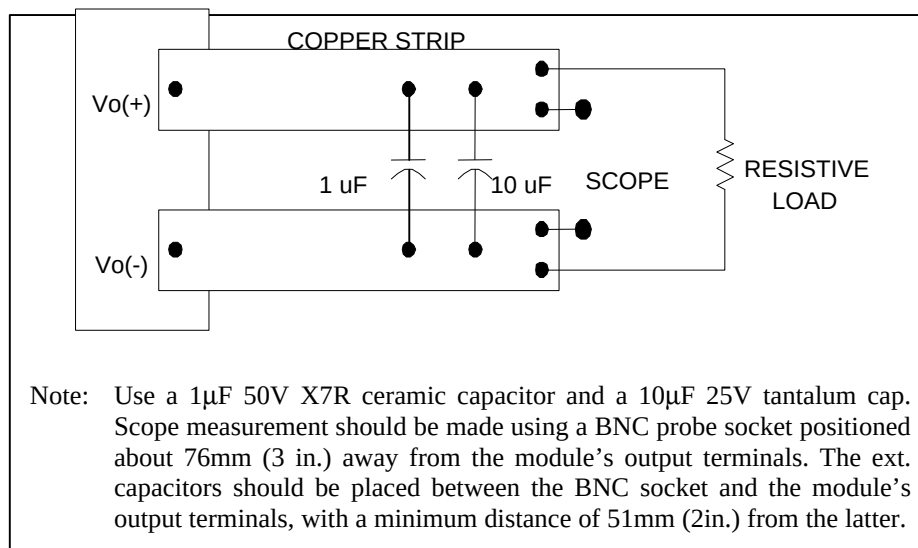

Figure 2. Peak to Peak Output Noise Measurement Setup.
5. Channel under test shall be set to full load with the other channel set to $I_{O,min}$ - See Fig 2 for the recommended output ripple and noise test setup.